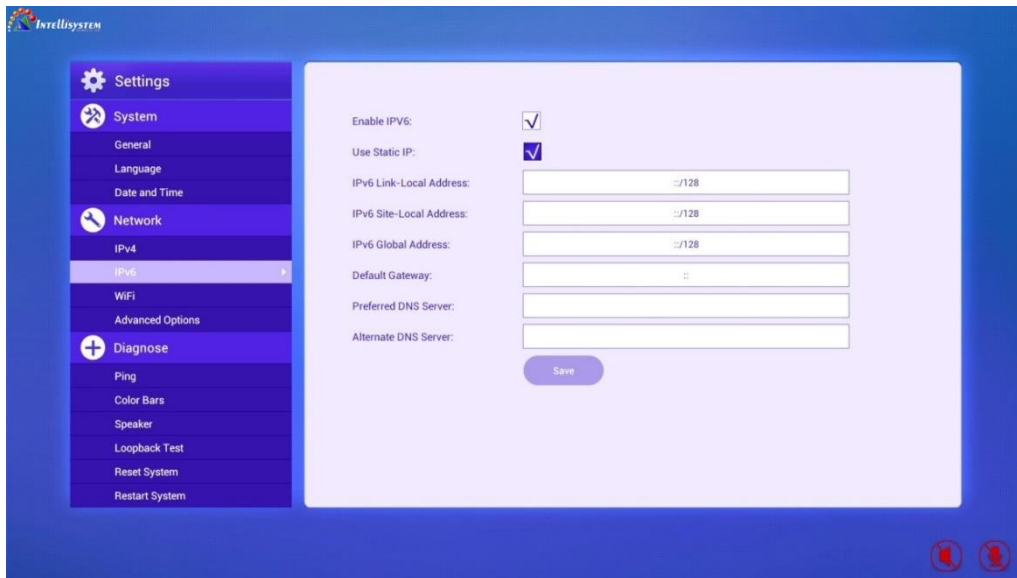

Figure 7-4-3
- Set IPv6 address manually, as Figure 7-4-3 shows.